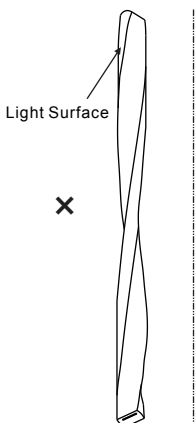

Fig. 2
9. Do not twist the light as Fig.2 and follow the correct bending direction as Fig.3.